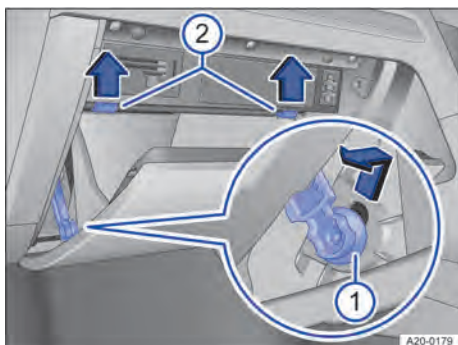

Fig. 192 Fuse box cover in the dash panel: right-hand drive vehicle, on the front passenger side (illustration).
1. Open the glove box and empty if necessary → Fig. 192.
2. Push the restrictor upwards into the opening of the holder and pull out to the side → Fig. 192 ①.
3. Push the catches upwards in the direction of the arrow at the same time open the glove box further → Fig. 192 ②.
3. Carefully push the glove box forwards past the resistance of the stop pins → Fig. 192 ②.